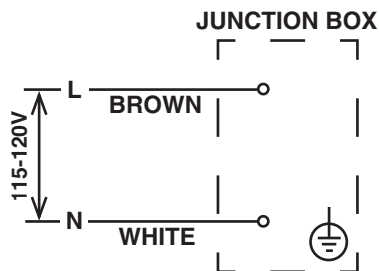

Fig. 3
4. Electrical connection must be made in accordance with the instructions on the "WARNING" tag, provided with the pig tail leads in the junction box. See Fig. 3.
CAUTION! Miswiring may result in severe damage to the icemaker. See Fig. 3.